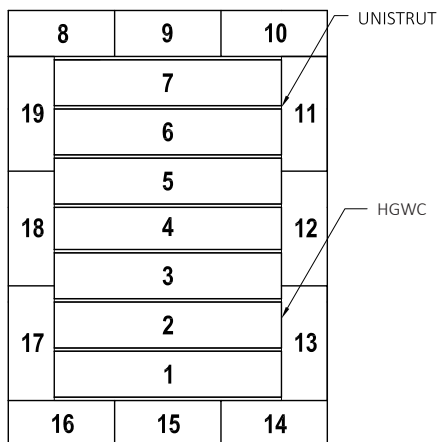

Figure 17. HGWC Perimeter Detail
NOTE: It is recommended to start working at one corner of the Unistrut and moving clockwise/counter clockwise around the Unistrut. This method allows for the contractor to trim or extend the drywall to meet up with the perimeter HGWC tees to provide a proper fit and seal. As seen in **Figure 17**.
Step 13A: When connecting adjacent HGWC modules, clamp sections together and fasten together using self-tapping screws (**Figure 17**). Bottom of tees should be flush and level prior to screwing together.